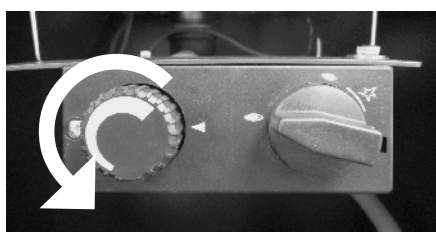

Fig. 7
1. The desired height of the gas flame can be adjusted by turning the flame height controller (Fig. 7) to the right or left.
3. For a higher gas flame, turn the knob clockwise to the left (Fig. 7).